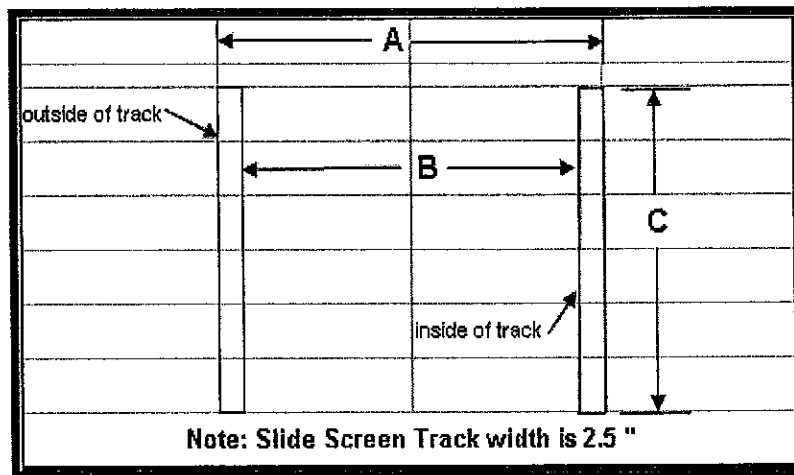

Figure 5: Slide Screen Measurements
Measuring for a slide screen application is very similar to a direct-mount screen. Figure 5 illustrates the measurements required. One important decision is how to measure the width dimension. Choose either the 'outside of track to outside of track' method (A) or the 'inside of track to inside of track' method (B). The height dimension (C) is the length of the track itself. Slide Screens are ordered on the **Slide Screen Cutsheet** (p28). *Please note that the slide screen track is 2 1/2" wide.*